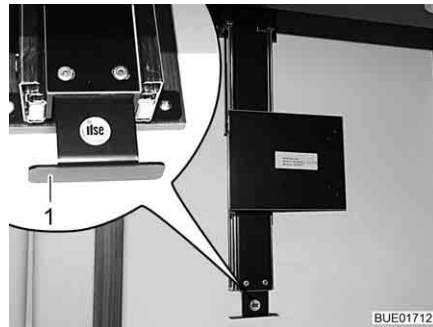

Fig. 67 Holder behind wall-mounted cupboard
- Use handle (Fig. 67,1) to pull extension downwards to the stop.